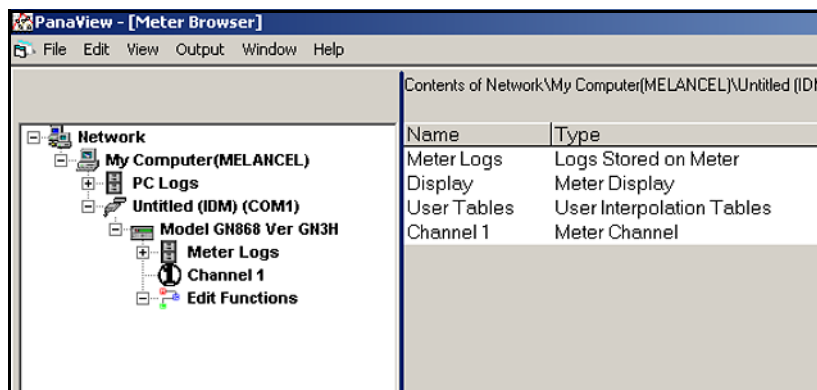

Figure 34: New Meter Browser - Meter Branch
3. Expand the meter tree as shown in *Figure 34* below.